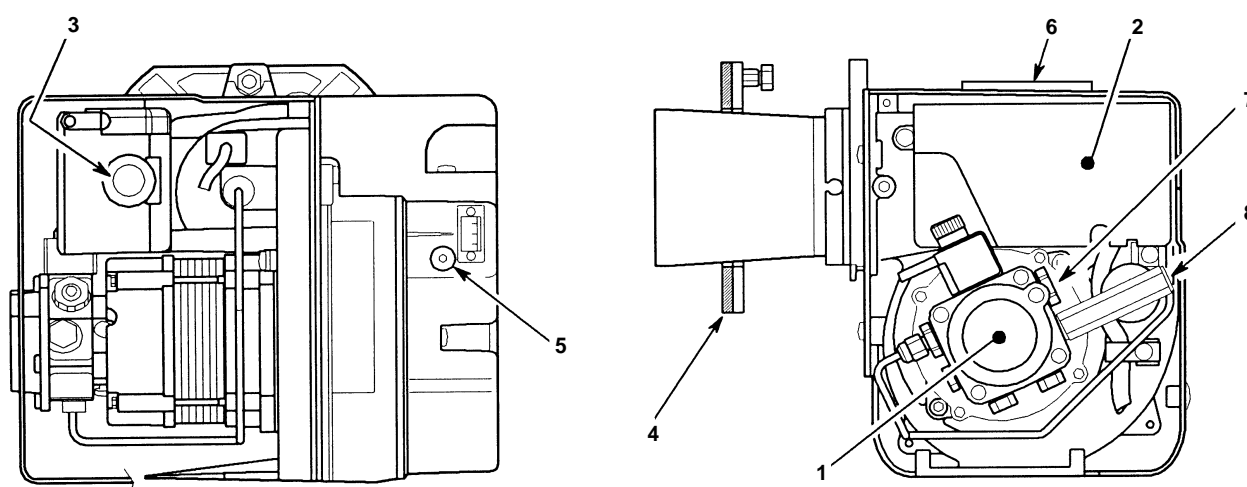

Fig. 29 - Riello RDB burner components
- 8 Check the operation of the safety valve (see Fig. 29) by turning the head anticlockwise until it clicks. The click is the safety valve lifting off its seat allowing water to escape from the system. Check that this is actually happening, and water flows unobstructed from the relief discharge pipe.
- 4 Connect a combined vent manifold and pressure gauge to the pressure gauge connection port on the oil pump. See Fig. 29. Open the vent screw on your vent manifold to vent the supply while the pump is running.
- 7 With the burner alight, check the fuel pressure. Refer to the Technical Information, sections 2.2 and 2.3. Adjust the pressure if necessary - see Fig. 29. Note that the On/Off switch (Kitchen/Utility models only, see Fig. 30a) lights when the boiler is switched on, but does not necessarily indicate the burner is firing.
- 12 Check the smoke number, if satisfactory check the CO₂. Use the hexagonal key supplied to adjust the burner air damper (see Fig. 29) as required. Turning the screw clockwise closes the damper and increases CO₂ level, turning the screw anticlockwise opens the damper and reduces CO₂ level.